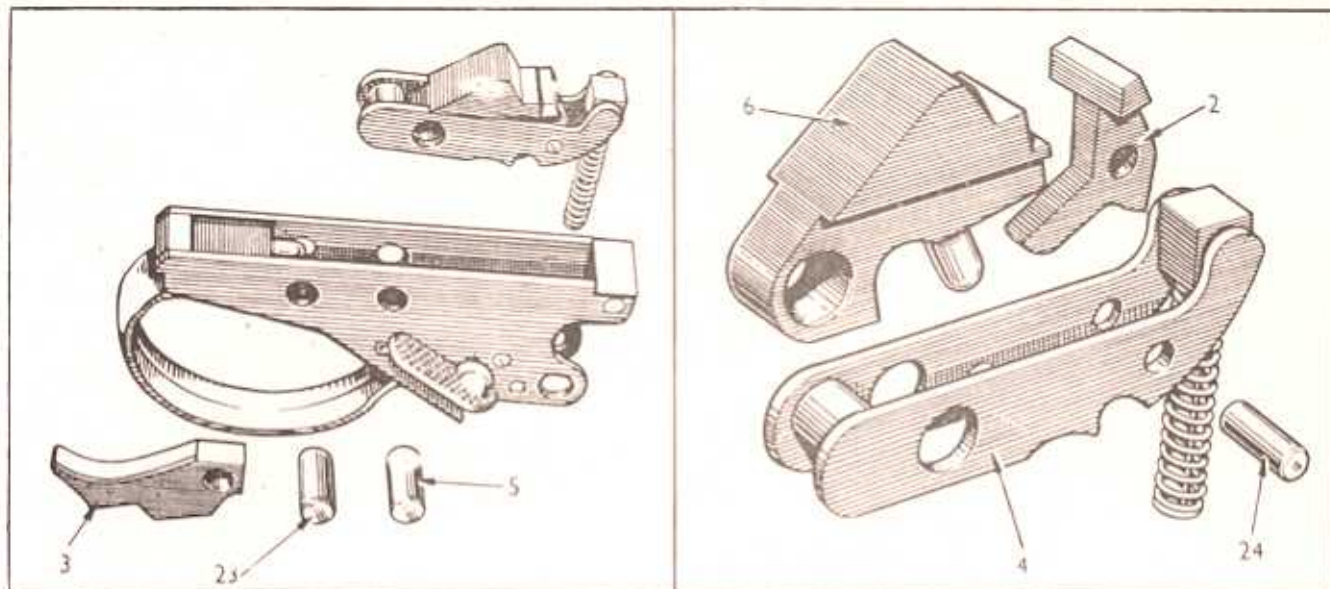

Fig. 13. To strip trigger group
9.2 TO STRIP TRIGGER GROUP (Fig. 13). Push out sear axis pin (5) and lift out sear group from trigger group. Push out trigger axis pin (23) and remove trigger (3) downwards through trigger guard.